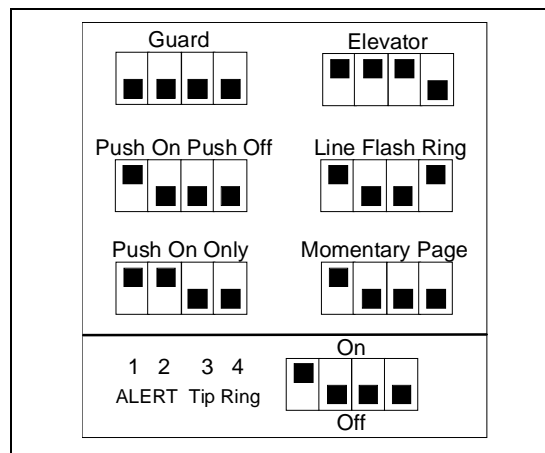
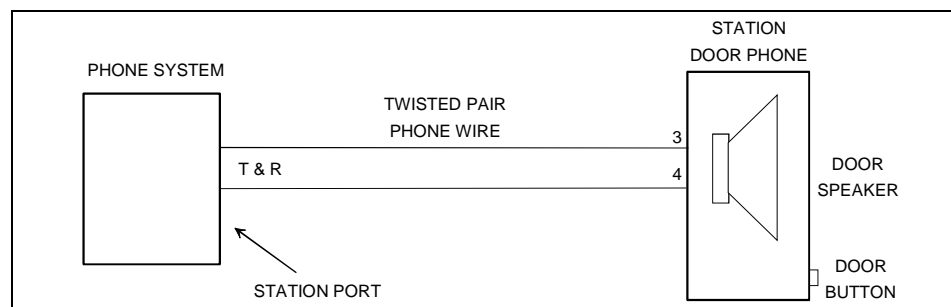

Figure 1. Station Door Phone Terminal Block and Dip Switches
Figure 2. Station Door Phone Wiring Diagram
The Station Door Phone back panel has two sets of terminals; one set is labeled ALERT, and the other labeled TIP/RING (see Figure 1). The TIP/RING terminals that connect to your telephone system must use twisted pair phone wire. See Figure 2 for wiring diagram. Follow steps below:
1. Connect Station Door Phone to existing door alert push button so that existing button is in parallel with Station Door Phone Terminals 1 and 2 (see Figure 2).